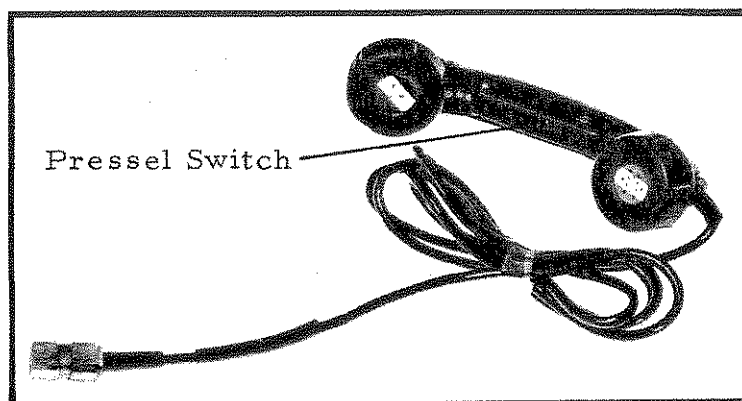

FIG 12
23. Handset, H-F2. (Fig 12). This lightweight handset is fitted with a pressel (press to talk) switch in the handle, a dynamic microphone and receiver, and a connecting cable to which is attached a five pin connector.